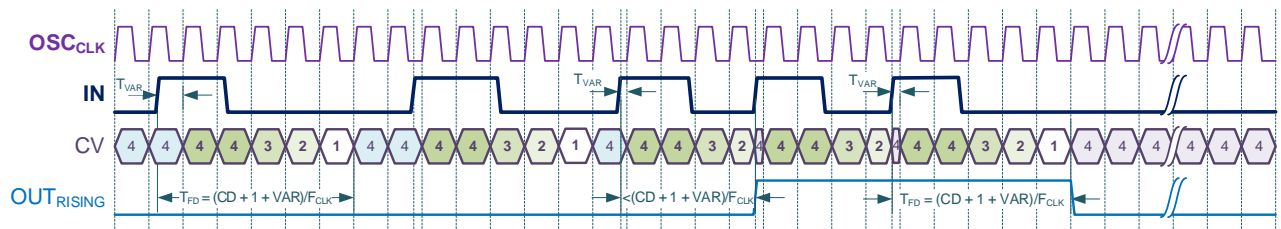
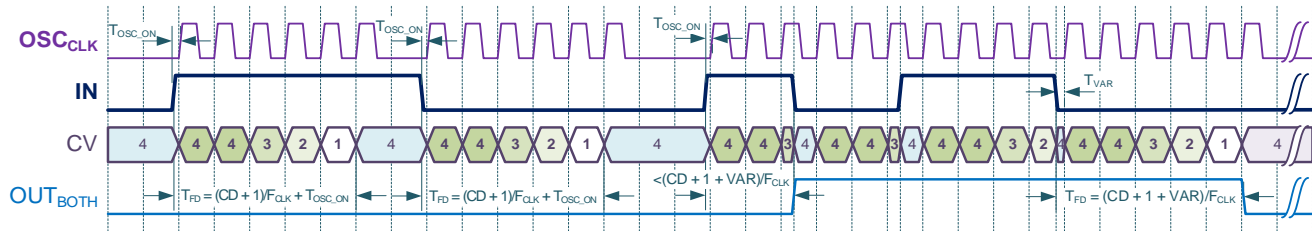

Figure 9.20. Frequency Detector Mode Timing Diagram (Rising Edge, Forced OSC)
Figure 9.25. Frequency Detector Mode Timing Diagram (Both Edge, Auto OSC)
The timing diagrams of the Frequency Detector Mode are shown in Figure 9.20...Figure 9.25.
- Frequency Detector (Figure 9.20...Figure 9.25)